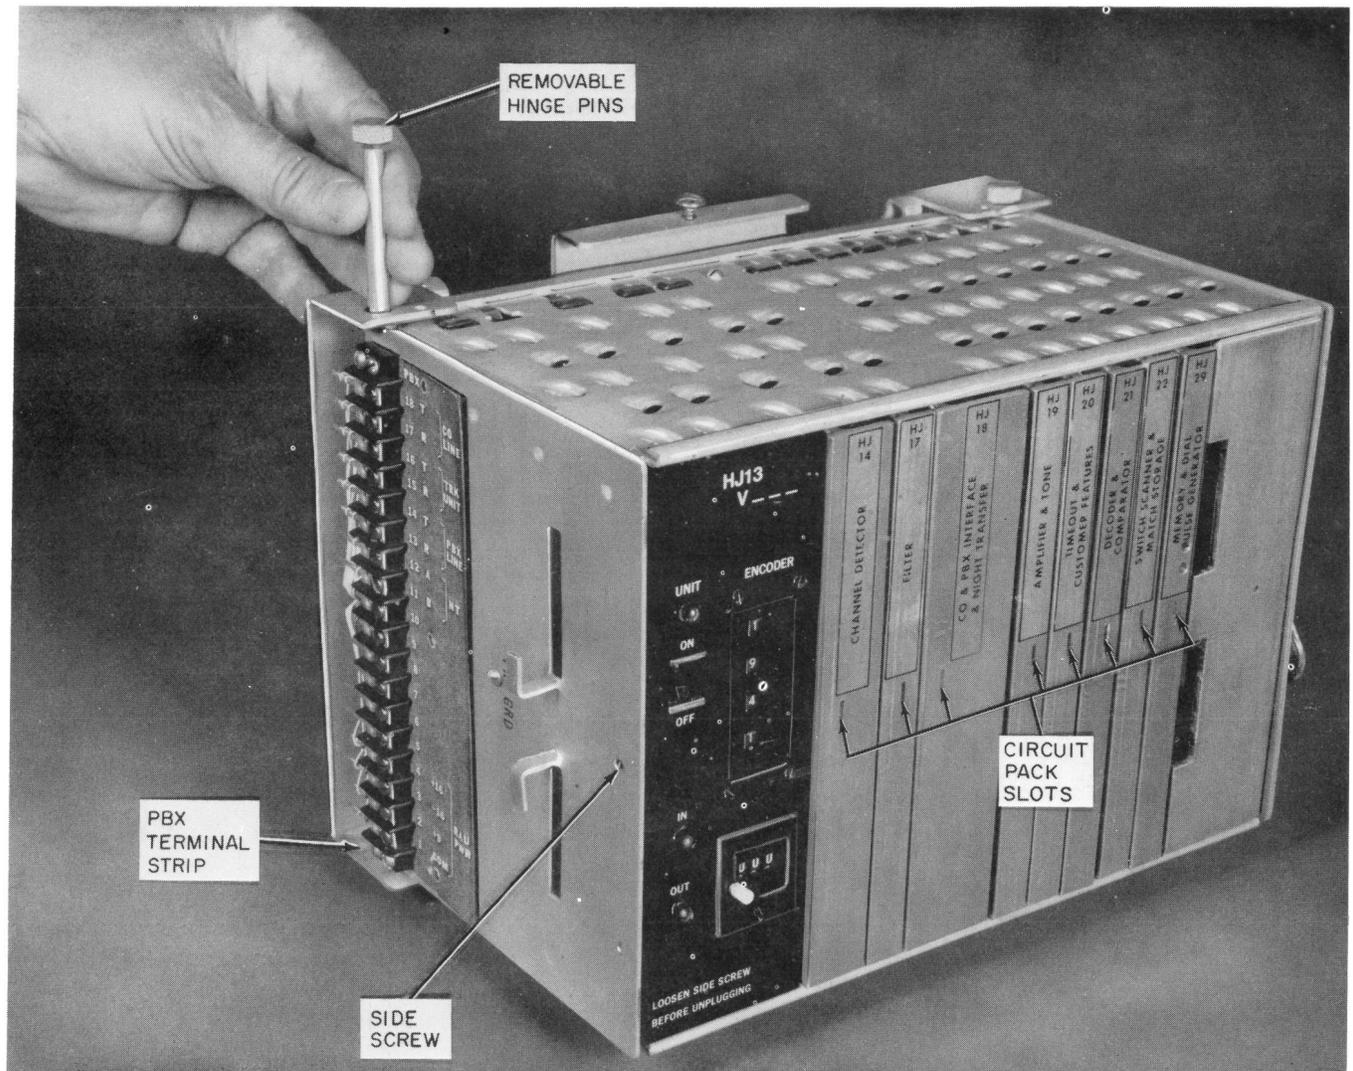
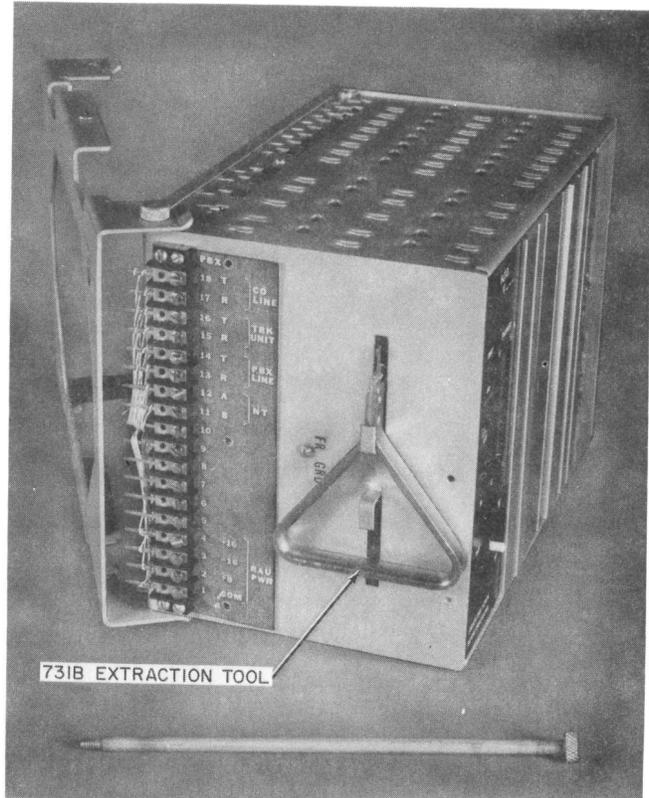

Fig. 7—Remote Access Unit—Cover Removed—Circuit Pack Arrangement—Removable Hinge Pins
Fig. 13—Remote Access Unit Carrier—731B Extraction Tool
3.04 The 89C apparatus mounting consists of a wall mounting plate assembly, a carrier assembly, and two removable hinge pins. The eight (and optionally nine) circuit packs (HJ series) are housed in the carrier of the 89C apparatus mounting as shown in Fig. 7. The 89C carrier is fastened to the wall mounting plate by two removable hinge pins. The design intent is that after the mounting bracket has been installed, only one pin is removed at a time. For example, when the left-side pin is removed, the carrier will open and swing to the right; when the right-side pin is removed, the carrier will open and swing to the left. Local cabling is terminated on the side of the carrier. (See Fig. 7 and 8.)
3.10 A left-side view of the carrier showing the 731B extraction tool is in Fig. 13, and the slot locations for inserting the tool in order to remove the CP are shown in Fig. 7.